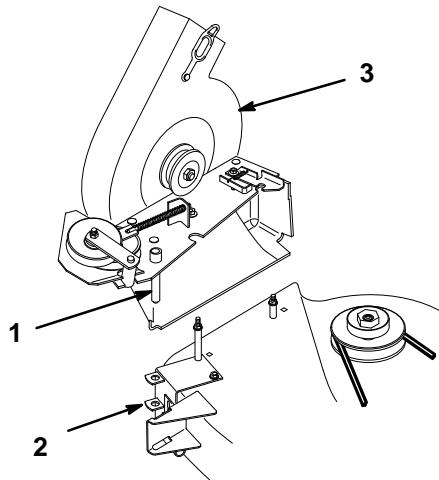

Figure 15
1. Install the blower by lowering the pivot pin into the pivot support (Fig. 15).